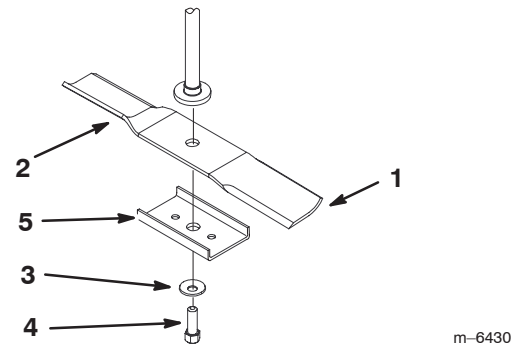

Figure 27
Hold the blade end using a rag or thickly-padded glove. Remove the blade bolt, curved washer, blade stiffener, and blade from the spindle shaft (Fig. 27).
1. Install the blade onto the spindle shaft (Fig. 27).
2. Install the blade stiffener, the curved washer (cupped side toward the blade) and the blade bolt (Fig. 27). Torque the blade bolt to 35–65 ft-lb (47–88 N·m).